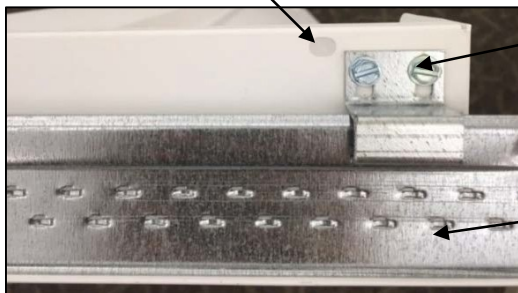

*Figure 2: Built In T-Bar Clip*
3. Bend the built in T-Bar clips over the T-Bar ceiling to secure the fixture to the T-Bar ceiling or use hanger wire hole as shown in Figure 2.